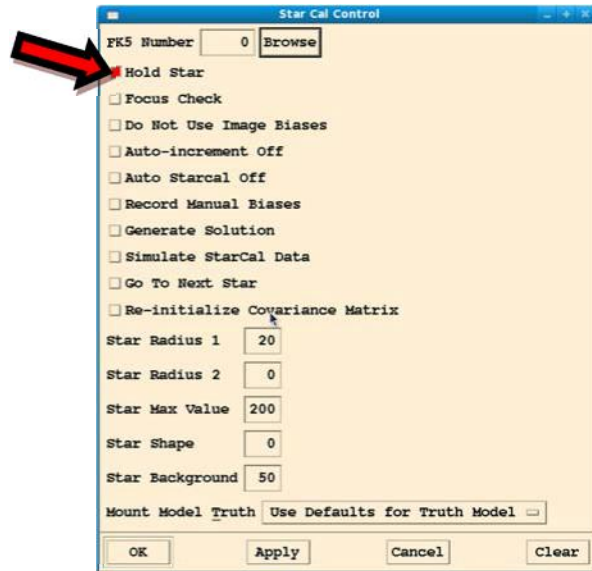

Figure 5-10: Star Cal control with Hold Star selected
7. **Hold the current star in position** – Go to **Control** => **Star Cal** control menu and select **Hold Star** (Figure 5-10). Wait to hit apply until you are on the star.